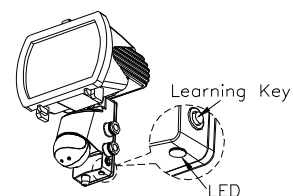

FIGURE 18
2) Once the TRS receiver(s) are in code learning mode, and within range, activate the transmitter floodlight learning mode by pushing and holding the Learning Key button, located on the side of the transmitter floodlight wiring box, for more than three seconds (FIGURE 18). The led on the transmitter floodlight will illuminate whilst you hold in the Learning Key button and then extinguish, release the Learning Key button. The led will flash briefly to indicate transmission is taking place. The transmitter floodlight will continue to transmit the learning code for approximately thirty seconds and then revert back to normal operation.
The transmitter floodlight has an automatic circuit test. This is useful if you experience problems coding TRS receiver(s) or suspect a problem with the transmitter floodlight circuitry or wiring. To activate AUTOMATIC CIRCUIT TEST press and release immediately the Learning Key (FIGURE 18). The led indicator will flash three times and the floodlight will illuminate and remain on until you again press and immediately release the Learning Key. If the transmitter floodlight functions correctly during this test look elsewhere for the problem.